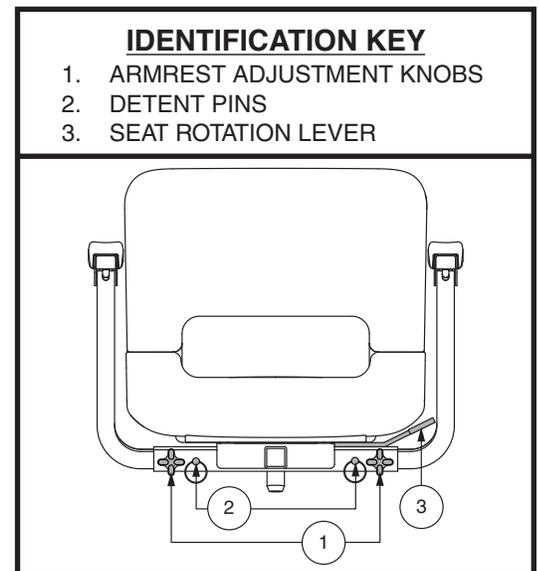

Figure 19. Seat Adjustments – Style A
1. Loosen the armrest adjustment knobs. See figure 19.
1. Depending on your seat type, either pull upward or push forward on the seat rotation lever to disengage the seat. See **figure 19 or 20**.